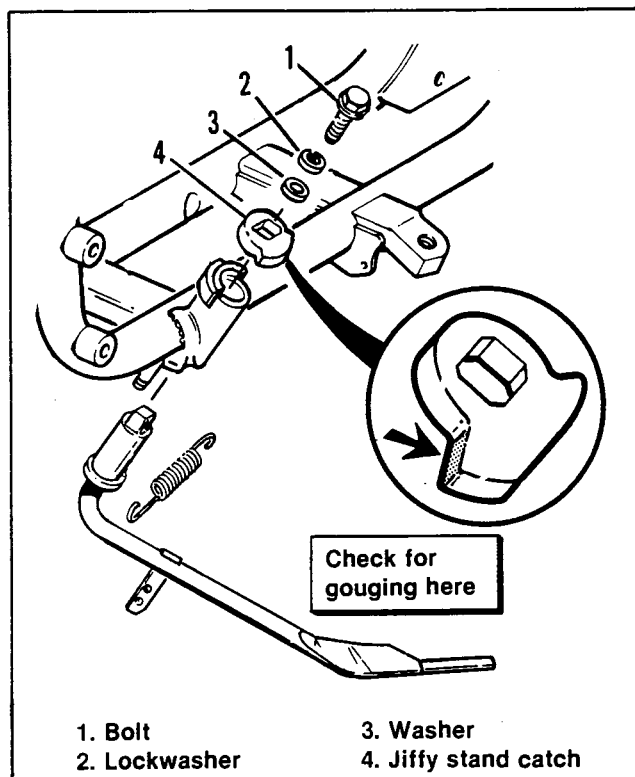

Figure 1. Jiffy Stand
See Figure 1. Inspect all motorcycles at your dealership and those you have sold that are in the VIN range listed above for excessive lean angle while resting on jiffy stand. Also examine the leading edge on the catch that contacts the frame.
1. See Figure 1. Support motorcycle and remove bolt (1), lockwasher (2) and washer (3).
2. Remove catch (4) and replace with properly hardened catch, Harley-Davidson Part No. 50038-84.
3. Install hardware removed in step 1 and tighten bolt (1) to 18-20 ft-lbs torque.